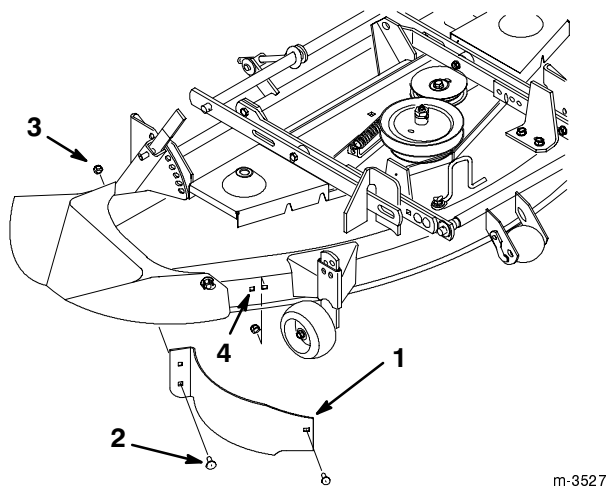

Figure 4
1. Remove the lock nuts from the right side baffle (Fig. 4). Slide the baffle out the discharge opening to remove.
2. Install the previously removed 5/16 x 5/8" (16 mm) bolt and 5/16" locknut in the open hole on the right front of the mower for safety (Fig. 4).